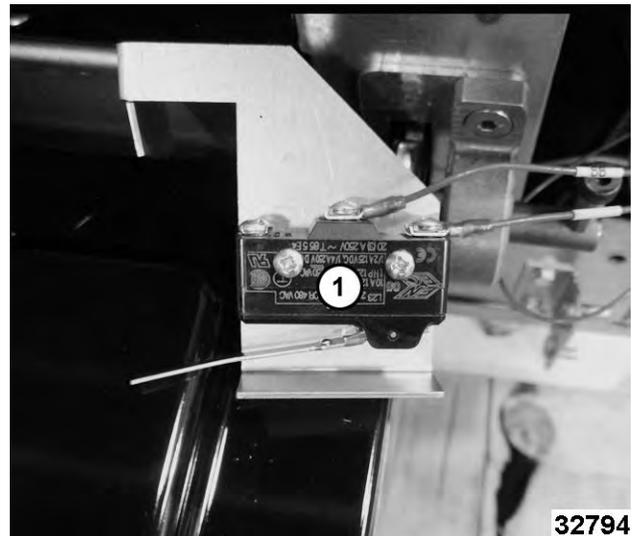

Fig. 94
4. Note and disconnect microswitch (1, Fig. 94) wiring.